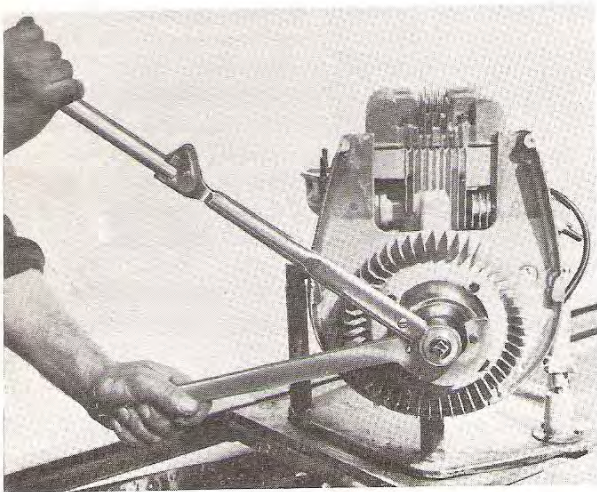

Figure 1
- d. Holding the emergency starter cup, loosen the M-16 nut with a socket wrench (figure 1).